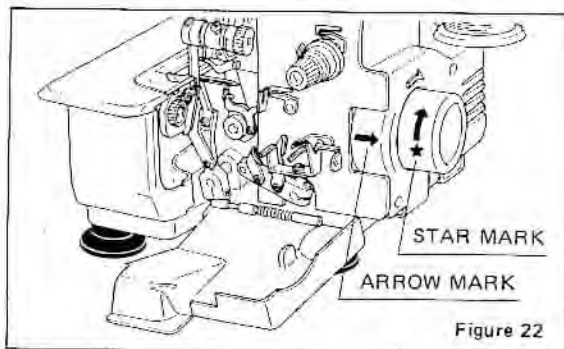

Figure 22
6. Now, lower the needle to the lowest position by turning the handwheel clockwise and match the STAR MARK on the handwheel to the ARROW MARK on the face of the machine (Figure 22).
6. Lower the needle to the lowest position by turning the handwheel clockwise and match the STAR MARK on the handwheel to the ARROW MARK on the face of the machine (See Figure 22).